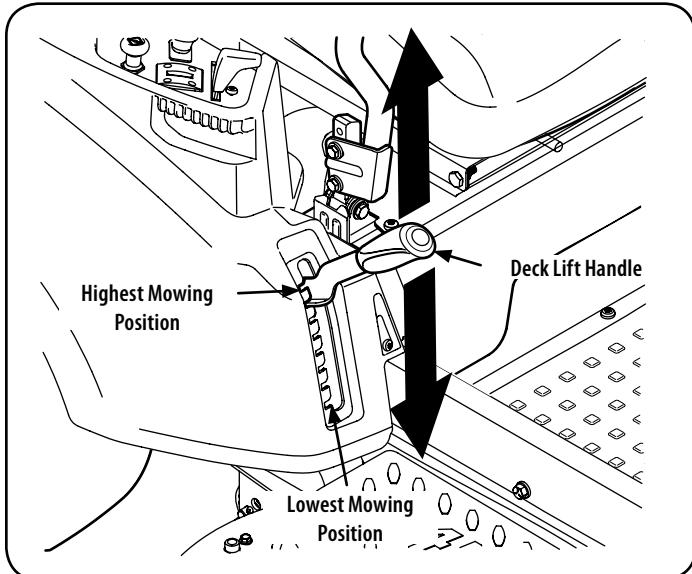

Figure 33
- Using the deck lift handle, raise the deck to the position that provides the most horizontal run of the belt between the deck idler pulleys and the PTO pulley on the bottom of the engine. See Figure 33.
- Lower the deck into the lowest position using the deck lift handle. See Figure 33.
- Place the deck lift handle in the highest mowing position See Figure 33.